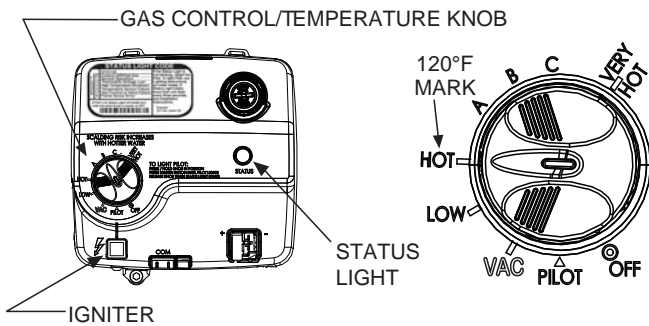

FIGURE 18.
**HOTTER WATER CAN SCALD:** Water heaters are intended to produce hot water. Water heated to a temperature which will satisfy space heating, clothes washing, dish washing, and other sanitizing needs can scald and permanently injure you upon contact. Some people are more likely to be permanently injured by hot water than others. These include the elderly, children, the infirm, or physically/mentally handicapped. If anyone using hot water in your home fits into one of these groups or if there is a local code or state law requiring a certain temperature water at the hot water tap, then you must take special precautions. In addition to using the lowest possible temperature setting that satisfies your hot water needs, a means such as a mixing valve should be used at the hot water taps used by these people or at the water heater. Mixing valves are available at plumbing supply or hardware stores. See Figure 12. Follow manufacturer's instructions for installation of the valves. Before changing the factory setting on the gas control valve/thermostat, see Figure 18. Using the lowest hot water temperature that meets your needs will also provide the most energy efficient operation of the water heater.
The gas control valve/thermostat is adjusted to the pilot position when it is shipped from the factory. Water temperature can be regulated by moving the temperature dial to the preferred setting. The preferred starting point is 120°F at the "HOT" setting. Align the knob with the desired water temperature as shown in Figure 18. There is a hot water scald potential if the gas control valve/thermostat is set too high.